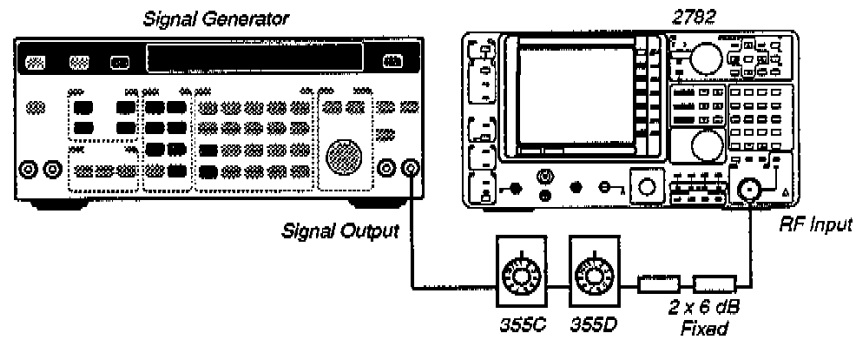

Figure 2-10. Test Equipment Setup for Steps 50 and 51 of the Marker Counter Check.
- l. Disconnect the 50 Ω cable from the 2782, and connect the signal generator (item 8 in the equipment list) to the RF INPUT connector through a set of step attenuators and two 6 dB fixed attenuators (as shown in Figure 2-10). Set the signal generator for a signal output frequency of 100 MHz and an amplitude level of 12 dBm.